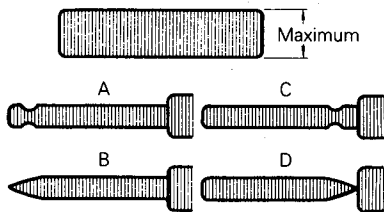
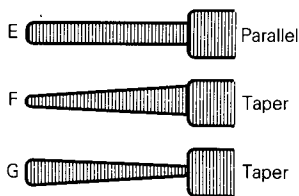

Fig. 4-26 Minimum FM Waveform Output
Fig. 4-27 Minimum Waveform Output (Standard waveform)
- F. If the FM waveform is similar to (A) or (B) in Fig. 4-26, adjust the height of the supply guide roller until it becomes like (E), (F) or (G) in Fig. 4-27. If the FM waveform fluctuates, adjust to the minimum point of fluctuation.
- G. If the FM waveform is similar to (C) or (D) in Fig. 4-26 adjust the height of the take-up guide roller until it becomes like (E), (F) or (G) in Fig. 4-27. If the waveform fluctuates, adjust to the minimum point of fluctuation.